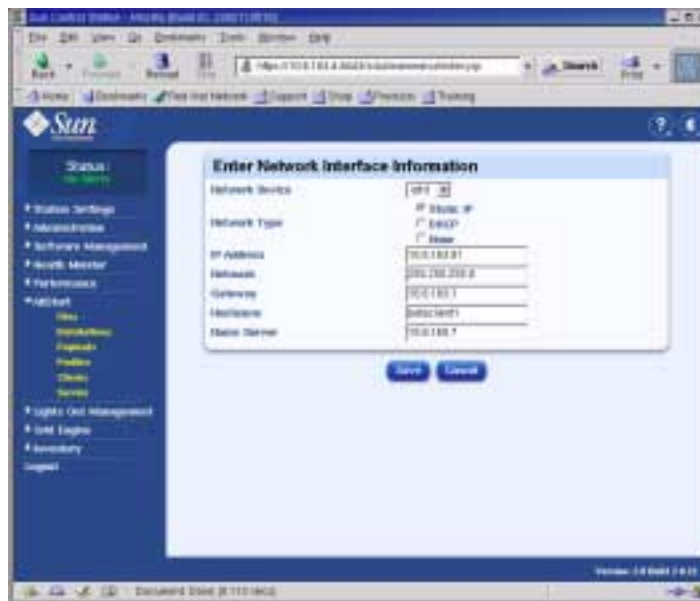

FIGURE 2-19 Enter Network Interface Information Window (AllStart Clients)
- In the Enter Network Interface Information window, create the network interface by defining the information for the node to which you will be loading the payload (see FIGURE 2-19 for an example).**